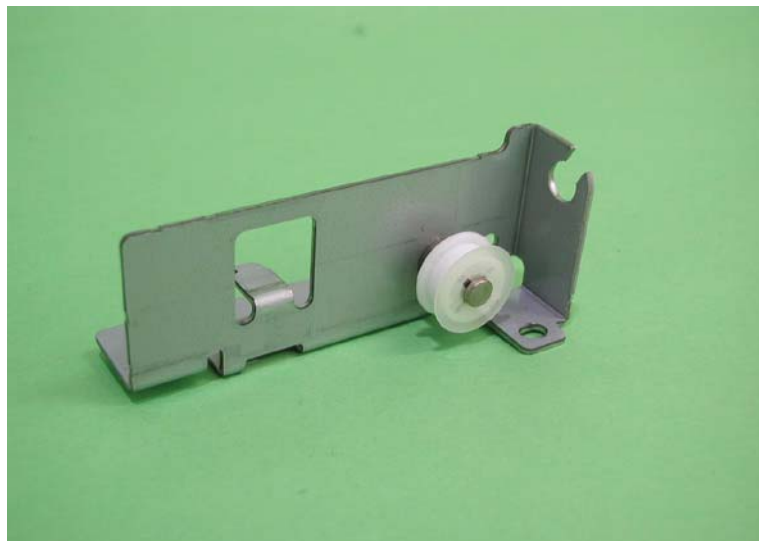

Figure 4-22. Driven Pulley Assembly
6. Remove the driven pulley assembly from the base frame, and then remove the timing belt. (See Figure 4-22)